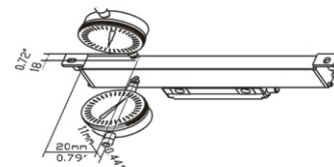
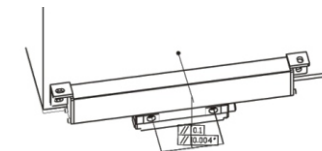

Figure 4.5
Figure 4.6
c) When you calibrate the parallelism of the body of the linear scale with level meter or other similar devices, the angle of the measuring head must be confined within $\pm 30^\circ$ (based on the measuring head of the level meter being parallel with the level meter itself). As for the angle, the smaller, the better. If you use the decimal meter (Figure 4.5, 4.6, 4.8, 4.9), you must make the bar of the measuring head perpendicular with the surface to be measured, only in this case can ensure the actual measuring precision.
h) Based on the center of the linear scale, you must take the point of symmetry of the two sides as the criteria point when adjusting the height and level of the linear scale. As to any linear scale, whenever you perform the horizontal adjustment or vertical adjustment, for the body of the linear scale itself, the range of the adjustment can't individually exceed 20mm from the end of the meter to the body of the scale (Figure 4.5). As for the Read Head, perform the adjustment within the two square standard sides (Figure 4.6)
The parallelism of the read-head referring to the worktable is less than 0.10mm, and the maximum parallelism can't exceed 0.15 (Figure 4.6)